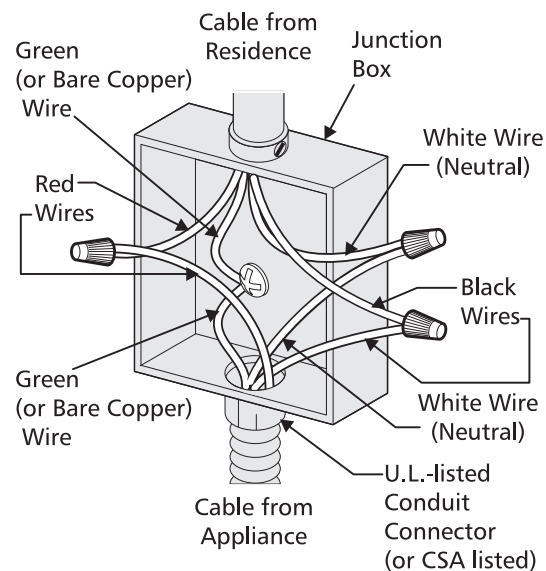

Figure 7 – 4-Wire Electrical System
Where local codes DO NOT permit connecting the appliance-grounding conductor to the neutral (white) wire, or if connecting to 4-wire electrical system (see Figure 7):
3. In the circuit breaker, fuse box or junction box: connect appliance and residence cable wires as shown in figure 7.